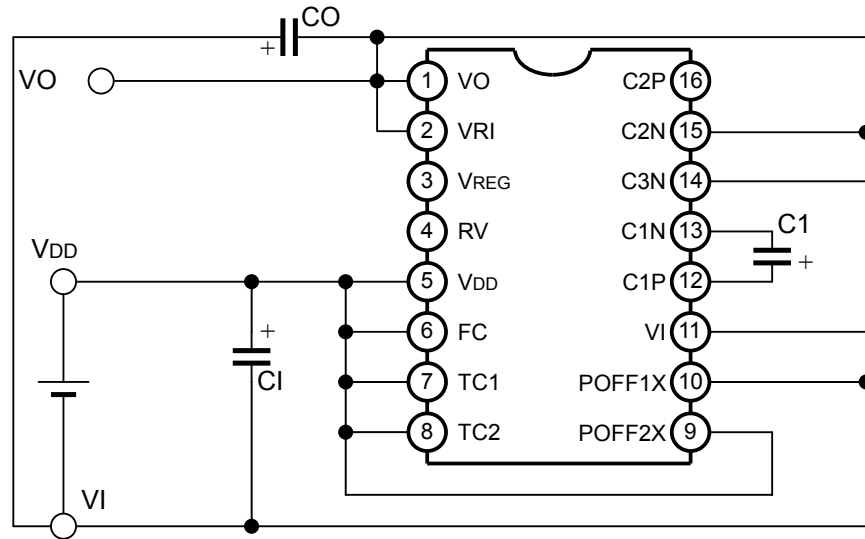

Fig.9.7 Double boosting connection example
Fig.9.7 shows a connection example.
- ◇ Fig.9.7 Setting conditions
- ① When using the high output mode